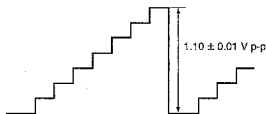

Fig. 3-1
2. Observe the TP503 (B IN) with an oscilloscope, and adjust the RGB A.GAIN level with a Remote commander so that the signal level will be $1.10\text{ V} \pm 0.01\text{ V p-p}$. (Fig. 3-1)
3. Observe the TP501 (R IN) with an oscilloscope, and adjust the RED A.GAIN level with a Remote commander so that the signal level will be $1.10\text{ V} \pm 0.01\text{ V p-p}$. (Fig. 3-1)
4. Observe the TP502 (G IN) with an oscilloscope, and adjust the GREEN A.GAIN level with a Remote commander so that the signal level will be $1.10\text{ V} \pm 0.01\text{ V p-p}$. (Fig. 3-1)
6. Observe the TP503 (B IN) with an oscilloscope, and adjust the RGB A.GAIN level with a Remote commander so that the signal level will be $1.10\text{ V} \pm 0.01\text{ V p-p}$. (Fig. 3-1)